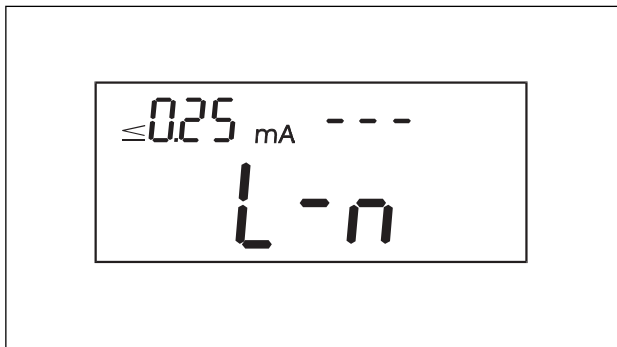

Fig. 7.24
- Press key START/STOP to repeat measurement at reversed phase polarity. For this purpose, the connection of L and N are automatically reversed. Phase polarity indication and measurement display are carried out as shown in Figures 7.24 and 7.26.
- Connect UUT to Commander 2 (see Fig. 7.24).